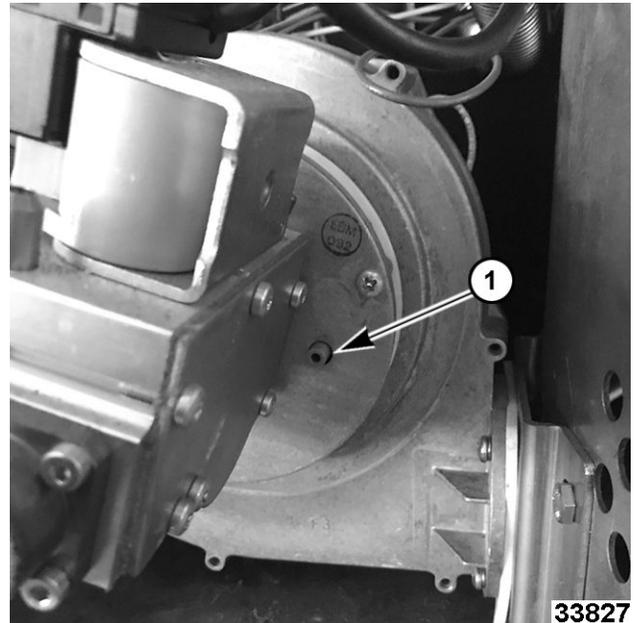

Fig. 42
3. Open manifold pressure port. Turn screw 1 to 2 turns counter clockwise (1, Fig. 42).